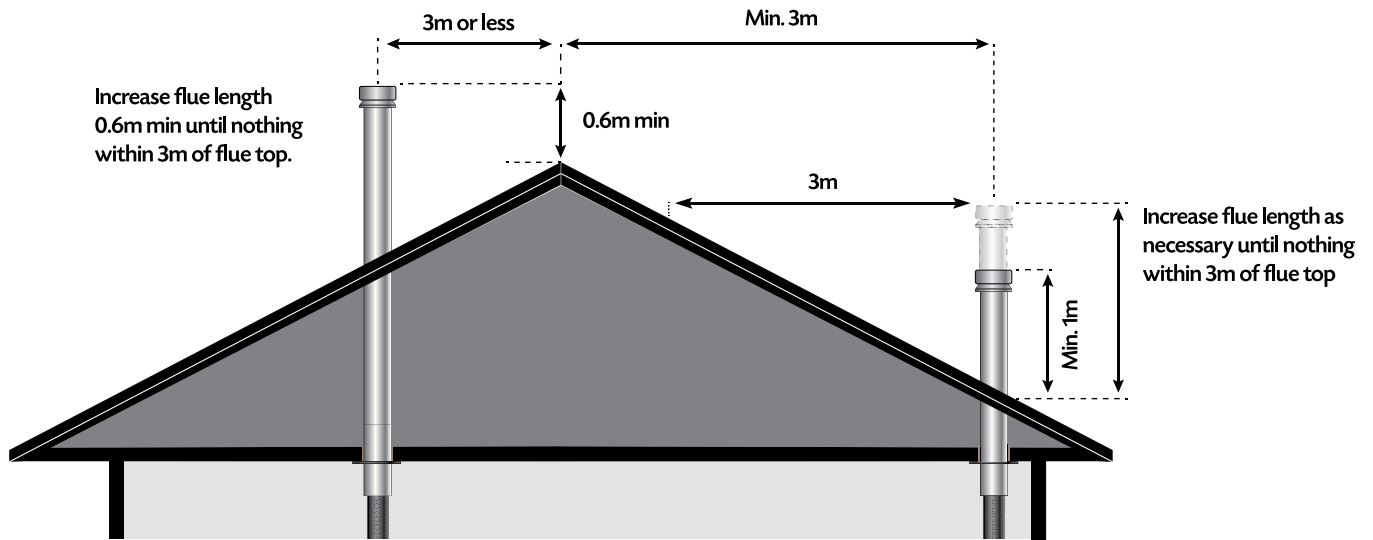

FIGURE 1
7. Add the remaining casings to the required height. Australian/New Zealand Standards state that “the flue pipe shall extend not less than 4.6m above the top of the floor protector”. If the flue pipe is within 3 metres of the ridge, the flue pipe must protrude at least 600mm above the ridge of the roof. If the distance from the ridge is more than 3 metres, the flue pipe must protrude at least 1000mm above roof penetration. Additional lengths of casing and flue may be required to achieve this. The flue pipe must be more than 3 metres from any nearby structure. Other clearances may be applicable, it is up to the installer to ensure compliance with all regulations. See Figure 1 and 2 on P7.
7. Add the remaining casings to the required height. Australian/New Zealand Standards state that "the flue pipe shall extend not less than 4.6m above the top of the floor protector". If the flue pipe is within 3 metres of the ridge, the flue pipe must protrude at least 600mm above the ridge of the roof. If the distance from the ridge is more than 3 metres, the flue pipe must protrude at least 1000mm above roof penetration. Additional lengths of casing and flue may be required to achieve this. The flue pipe must be more than 6 metres from any nearby structure. Other clearances may be applicable, it is up to the installer to ensure compliance with all regulations. **See Figure 1 and 2 on P7.**